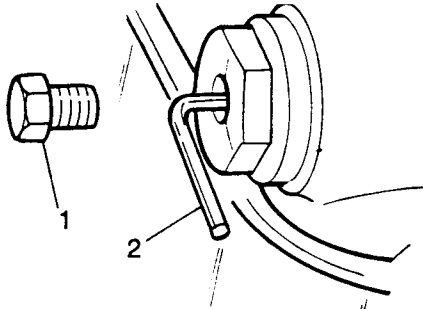

Fig B4.32
- (2) Refer to Fig B4.32. Retract the timing chain tensioner by removing the chain tensioner adaptor screw (1), fitting a 3,17 mm allen key (2) and turning the key 90° clockwise.
(12) Release the chain tensioner by turning the allen key ((2) on Fig B4.32) 90° counterclockwise.
(13) Remove the allen key and replace the screw ((1) on Fig B4.32).